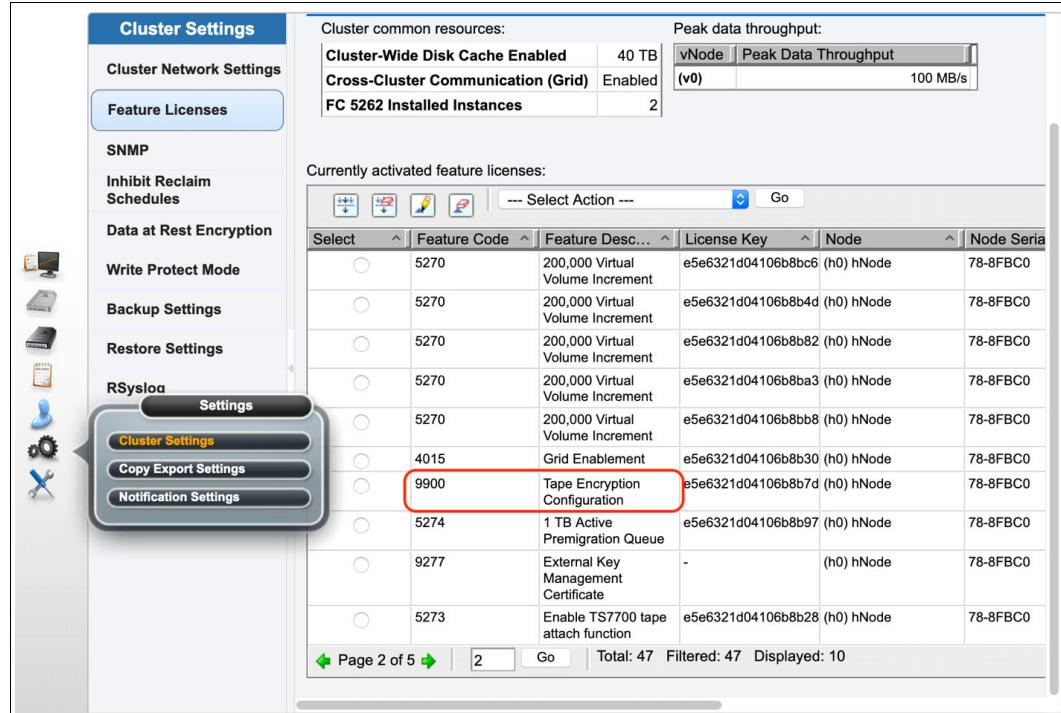

Figure J-1 Feature code 9900 (tape encryption configuration)
1. Install feature code 9900 (tape encryption configuration) into the TS7700T (if not previously installed). This step can be completed by the customer or an IBM service representative. A list of installed feature codes can be found in the Feature Licenses page by selecting **Cluster Settings** → **Settings** in the Management Interface (MI), as shown in Figure J-1 on page 1039.